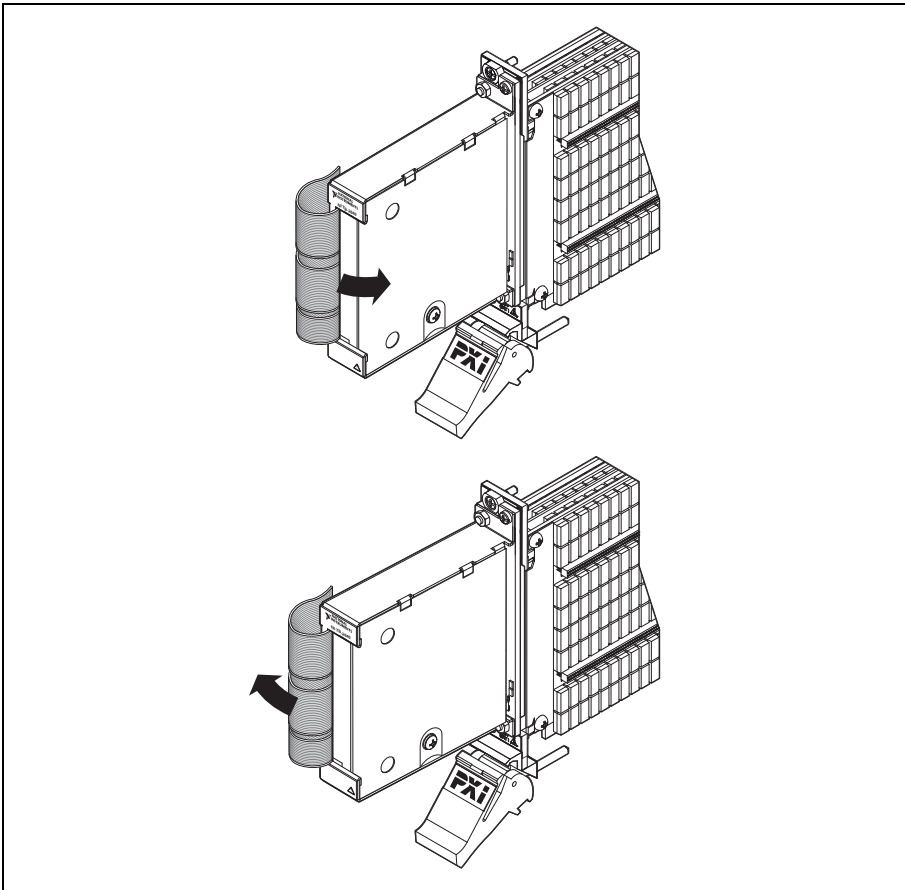

Figure 1. Aligning the NI PXI 2532 and NI TB 264x
6. Perform the following steps to align the pins on the NI PXI/PXIe-2532 and NI TB-264x terminal block, as shown in Figure 1: